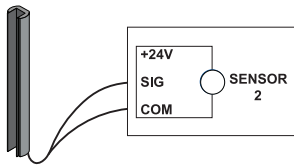

Figure 36. Sensor Connection
4. Install the wires into input Sensor #1, Sensor #2, or Input #1, or #2, or #3 on the SmartTouch 725 controller (Figure 36). Make sure to connect to